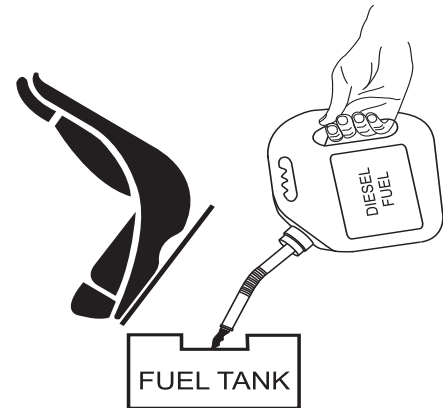

Figure 12. Adding Fuel
5. Pay attention to the fuel tank capacity when replenishing fuel (Figure 12). Refer to the fuel tank capacity listed on page 13, AR13D Roller Specification Table 1.